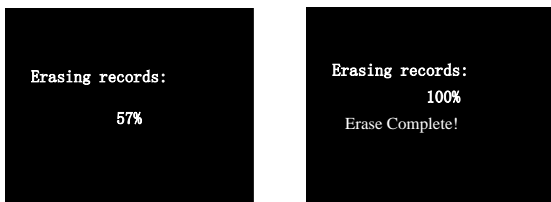

Figure 1-20 “Erase” interface
The “Erase” interface shows a question “Are you sure to erase All records?” To erase all records, select “Yes”, then press and hold the **On-Off/OK** Button ①/② and **Shift** Button ③ simultaneously for two seconds. Then, the interface shows the erasing process which is ended with a message “Erase Complete!”, as shown in Figure 1-20.